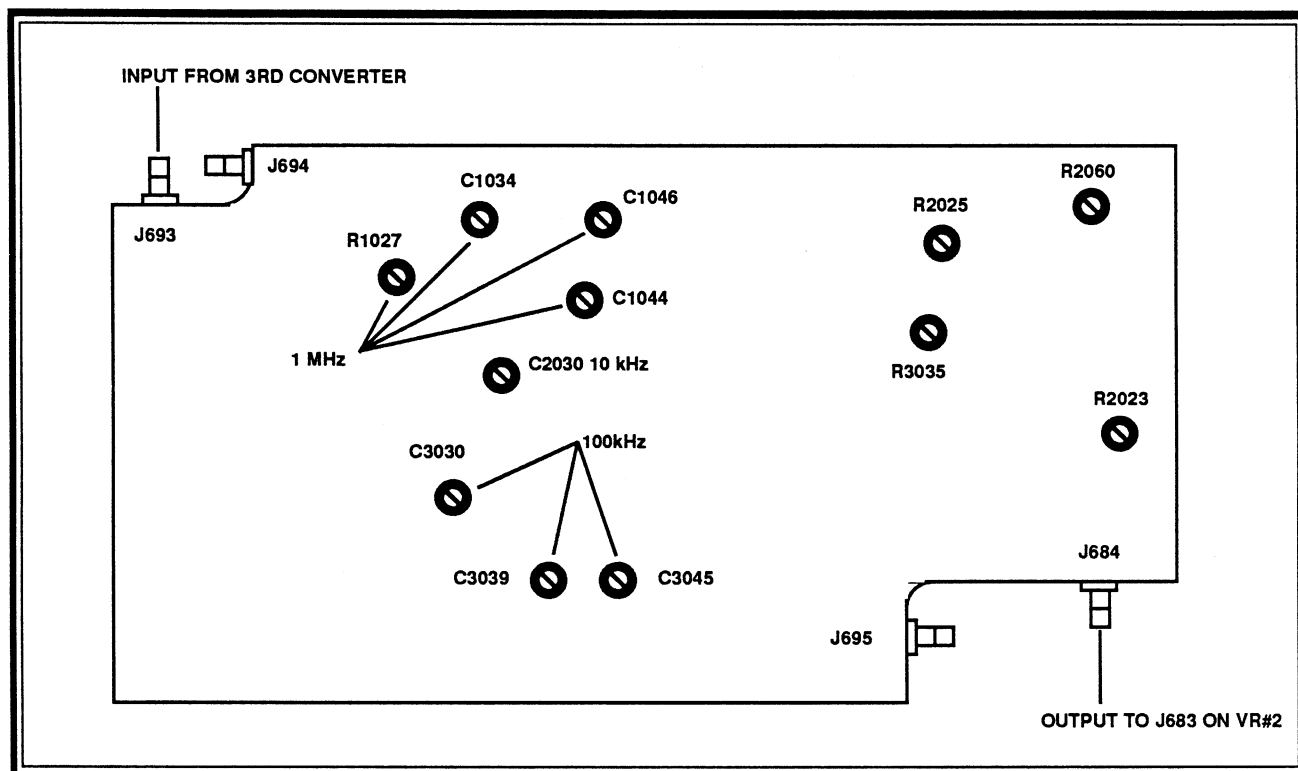

Figure 5. Adjustments on the rear of the Variable Resolution module.
m. Adjust Output Reference Level, R1030 (Figure 5) for a full screen (eight divisions) display.
- k. Adjust C2030 (Figure 5) for the best 10 kHz response centered about the 1 kHz reference.
- n. Adjust C3045, C3039, and C3030 (Figure 5) for the best 100 kHz response centered about the 10 kHz filter reference.
- p. Adjust C1034, C1044, and C1046 on the VR 2nd Filter Select board (Figure 5) for the best 1 MHz filter response that is centered about the 10 kHz reference. Refer to Figure 5-18.
- (1) Set the FREQ SPAN/DIV to 20 kHz, RESOLUTION BANDWIDTH to 100 kHz, Peak/Average to average, and REF LEVEL to -20 dBm.
- (2) Adjust the 3 MHz filter then adjust the remaining filters to the 100 kHz level as per the following table. Change FREQ SPAN/DIV as necessary to maintain a suitable display.